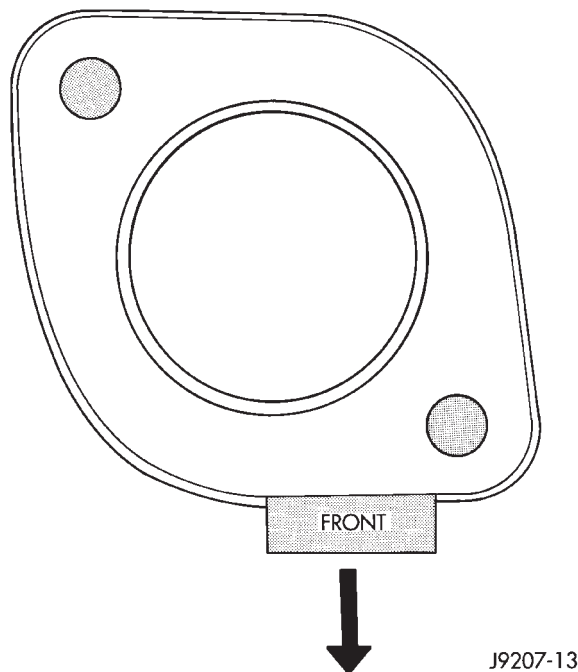

Fig. 70 Thermostat Position—3.9L V-6 or 5.2/5.9L V-8 Gas Engines
(4) Position the thermostat housing to the intake manifold. Note the word **FRONT** stamped on the housing (Fig. 70). For adequate clearance, this **must** be placed towards the front of vehicle. The housing should be slightly angled forward after installation to intake manifold.